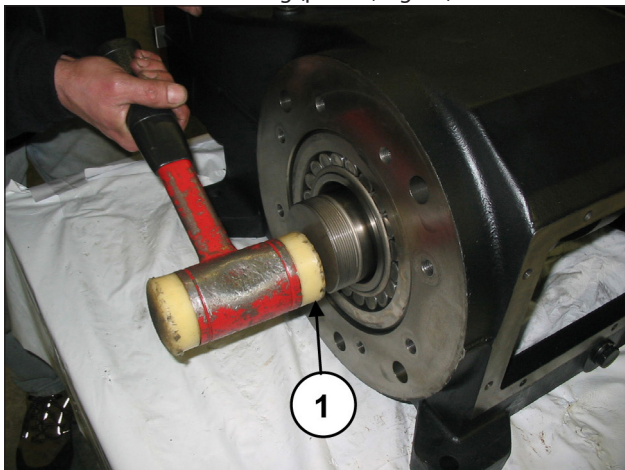

Fig. 28
Extract the bend shaft with the aid of an extractor hammer from the PTO side (pos. ①, Fig. 28).